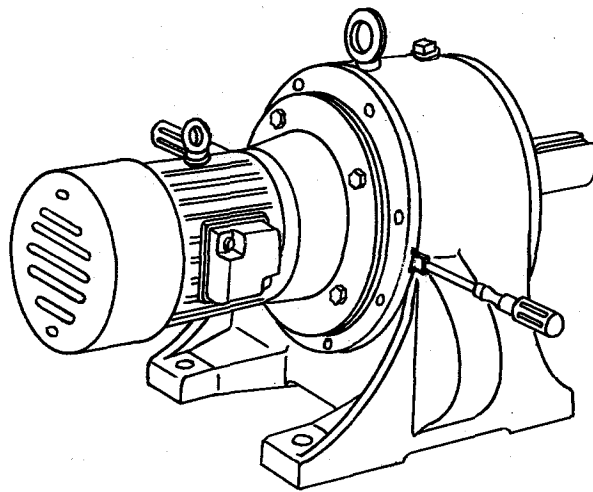

Fig. 8
- a) Take off the fastening bolts (65), insert the tip of a driver in 2 indentations provided at the binding place of the flange (3), wrench up the plane and thus disconnect the faucet joint. (Fig. 8)